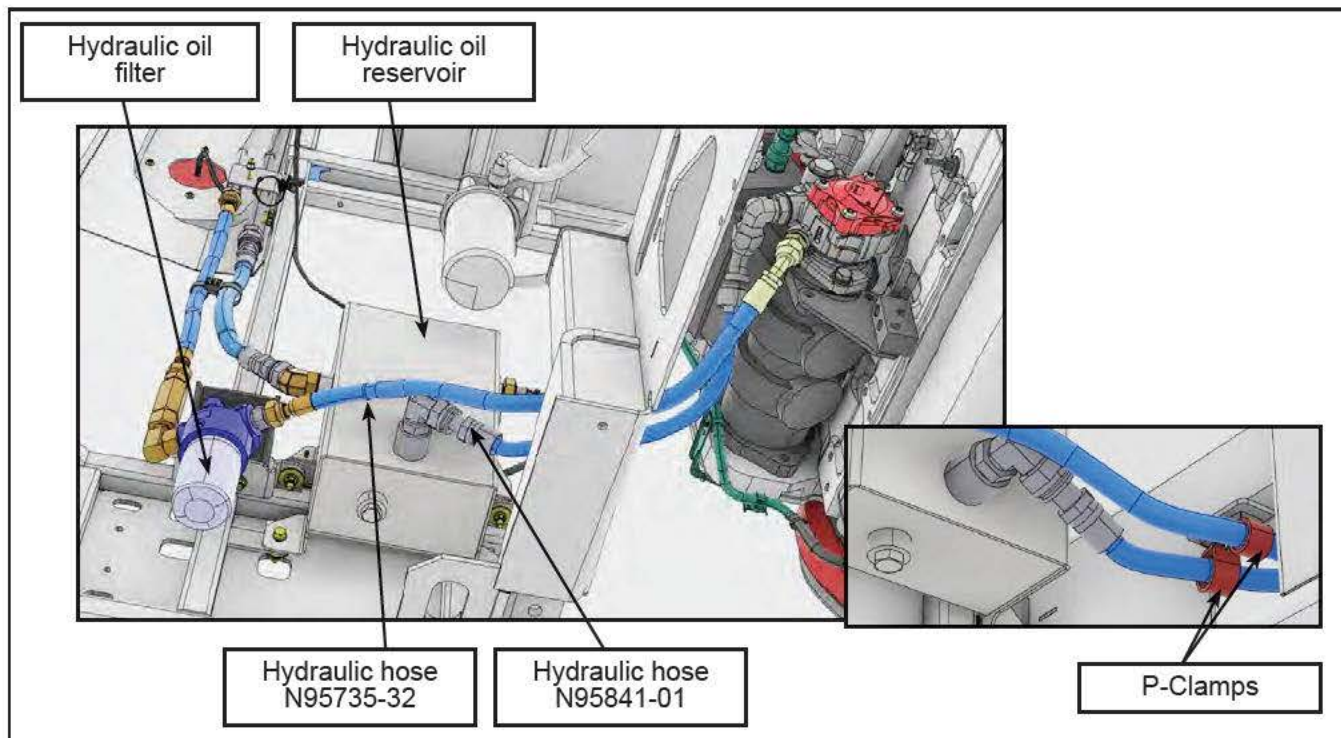

Figure 6 - Location of Hydraulic Hoses N95735-32 and N95841-01
- 1.16. Locate the hydraulic hose N95735-32 between the hydraulic pump and the hydraulic oil filter and the hydraulic hose N95841-01 between the hydraulic pump and the hydraulic oil reservoir (Figure 6).